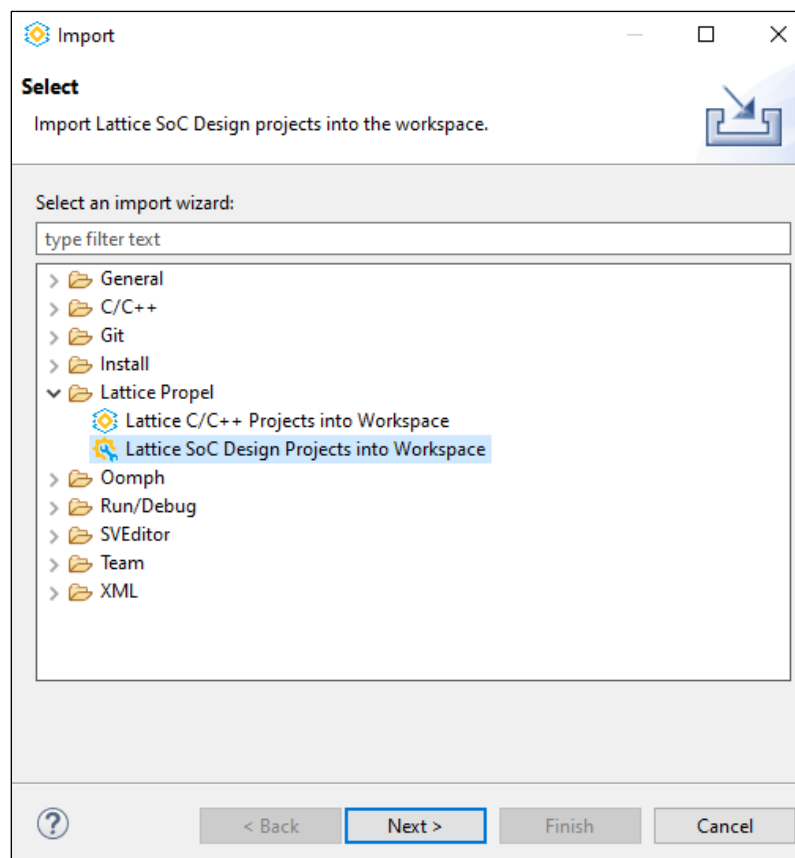

Figure 5.4. Import SoC Design Projects into Workspace
4. In the Import window, select **Lattice Propel -> Lattice SoC Design Projects into Workspace**. Click **Next** (Figure 5.4).